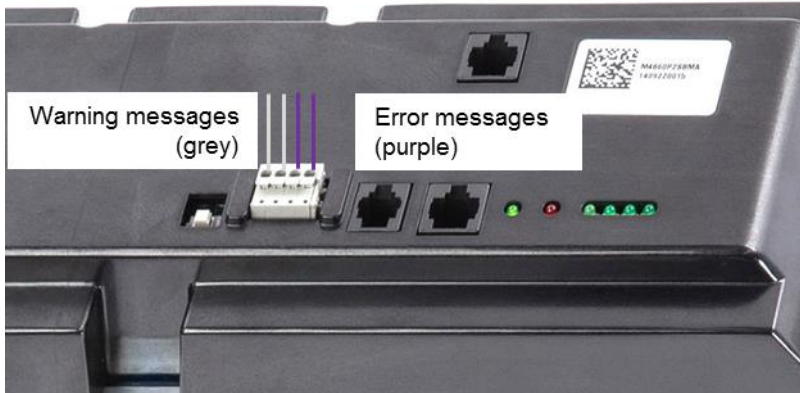

Figure 20: Clamping connections for error and warning messages
- **Communication 1:** Insert the four wires into the openings in the clamping connector on the battery module. For the pin assignment, see Figure 20.
- **Communication 1:** Insert the four double ferrules into the openings in the clamping connector on the master module. Insert the four ferrules into the openings in the clamping connector on the slave module. For the pin assignment, see Figure 20.